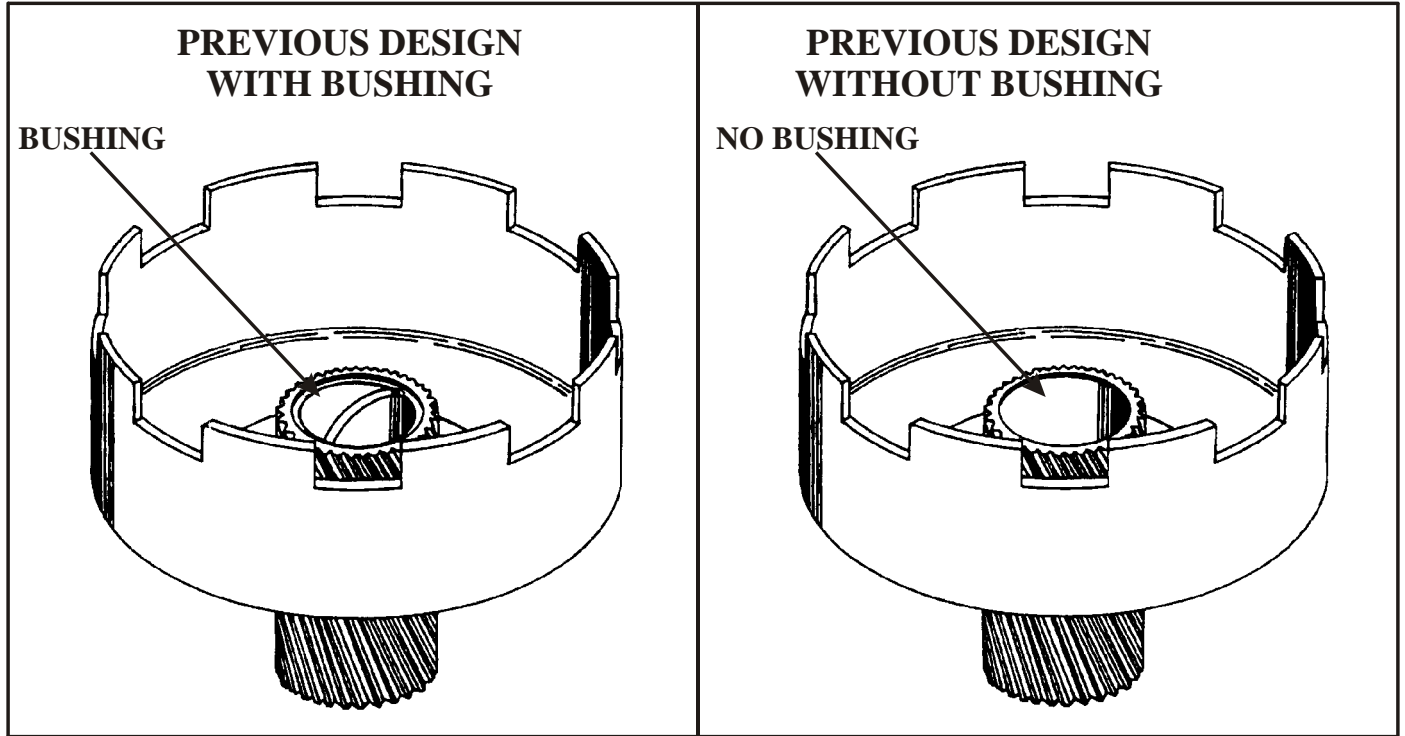

Figure 1
(1) **SUN GEAR** - Both bushings, inside the sun gear, were eliminated to allow full lubrication flow to the front planetary (See Figure 1).
- (1) The new design sun gear WITHOUT bushings WILL retro-fit back to all previous models (See Figure 1).
- (2) The previous design sun gear WITH the bushings CANNOT be used forward into the 4.0L models (See Figure 1).